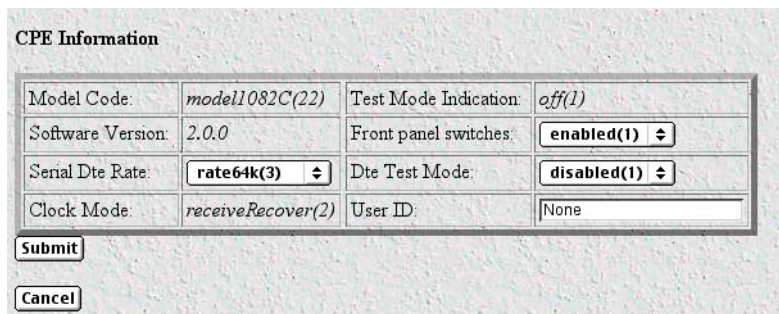

Figure 32. iDSL Port configurable parameters
- Click the **Change Config** button to open the configurable parameter fields (see figure 32).